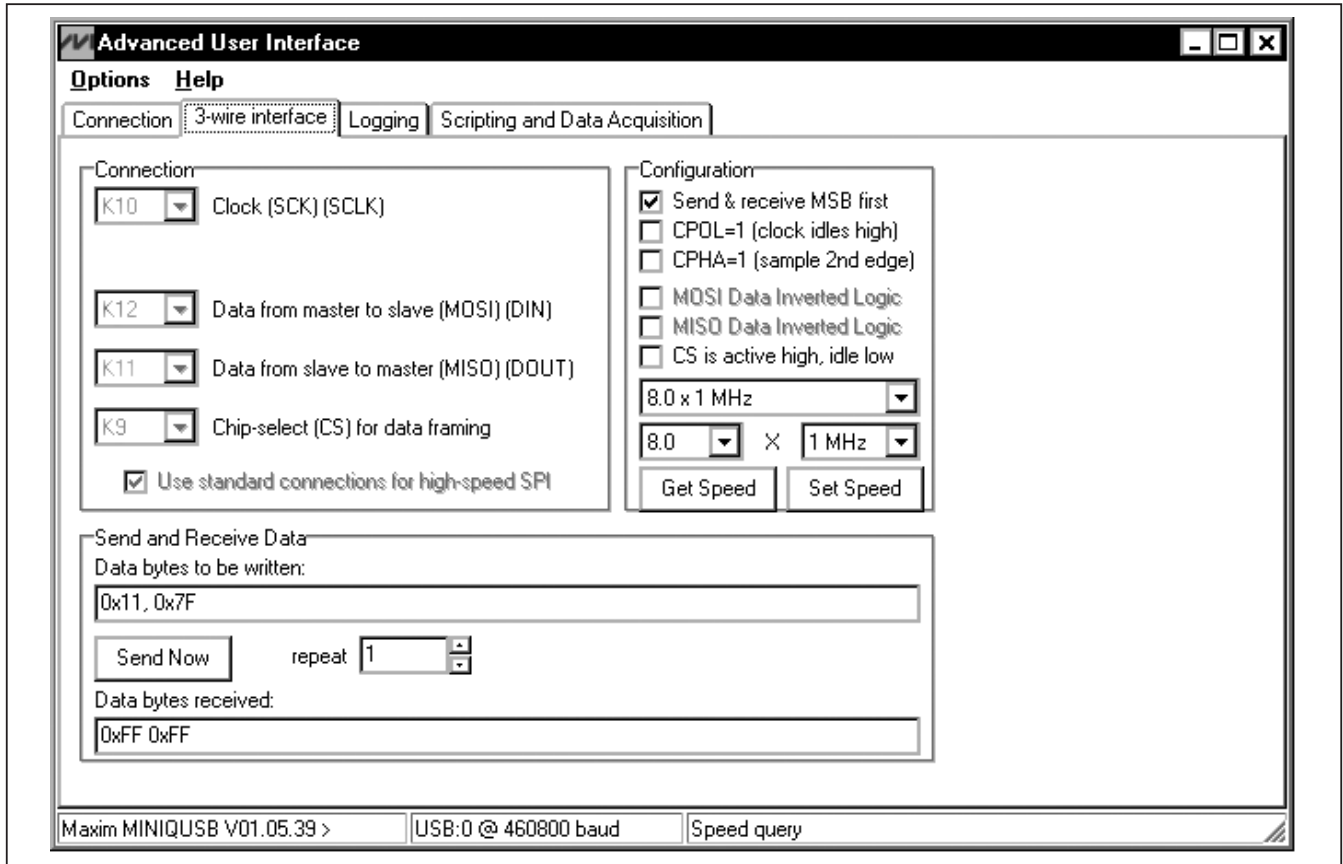

Figure 3. Simple Low-Level 3-Wire Interface
the **3-Wire Interface** (Figure 3) utility from the main program's **Options | Advanced Users Interface** menu bar. A window is displayed that allows SPI send/receive data operations.
On the **3-wire interface** tab, the **Connection** group box defines the hardware connections of the interface. For the EV kit, **K10** is selected from the **Clock (SCK) (SCLK)** drop-down list, **K12** from the **Data from master to slave (MOSI) (DIN)** drop-down list, **K11** from the **Data from slave to master (MISO) (DOOUT)** drop-down list, **K9** from the **Chip-select (CS) for data framing** drop-down list, and the **Use standard connections for high-speed SPI** checkbox is checked (see Figure 3).
The **Configuration** group box allows the user to configure the logic level and data rate. For the MAX5393 EV kit, check the **Send & Receive MSB first** checkbox and verify that the **CPOL=1 (clock idle high)** and **CPHA=1 (sample 2nd edge)** checkboxes are unchecked (see Figure 3).
**Note:** The SPI dialog boxes accept numeric data in hexadecimal format. Hexadecimal numbers must be prefixed by \$ or 0x. Figure 3 shows a simple SPI write-byte operation using the included 3-wire interface diagnostics tool. In this example, the software is sending command 0x11 (write to potentiometers A and B) and data 0x7F. The data sequence sets potentiometer A and B wiper positions to 127.